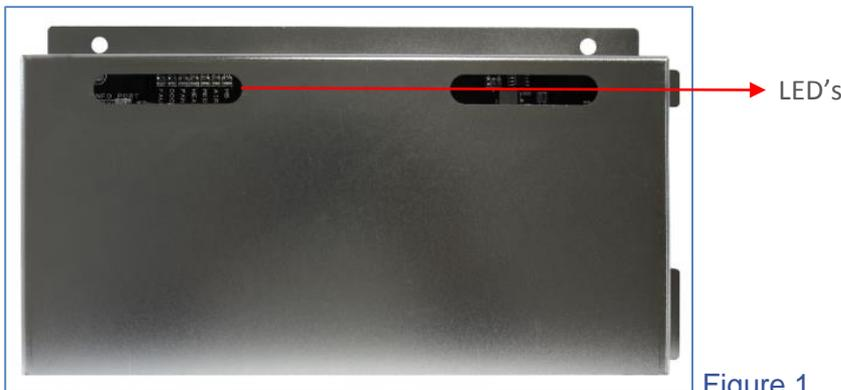

Figure 1
Step 4: Next, locate the controller board within your enclosure. Also take note of the systems LED's (figure 1).